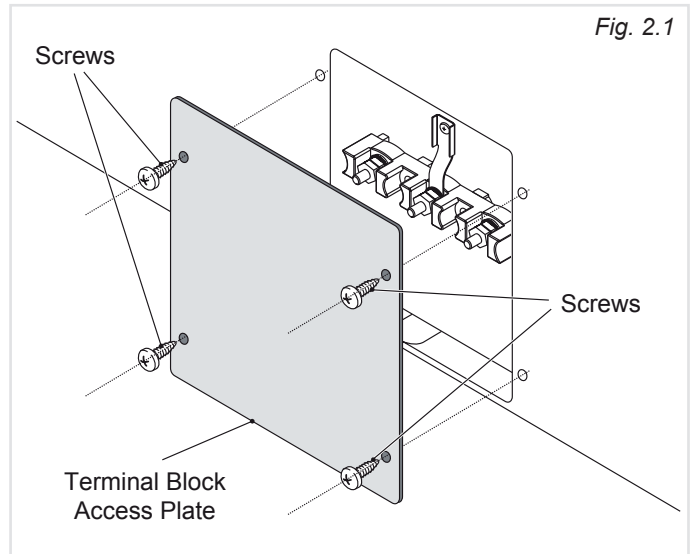

Fig. 2.1
### 3-Wire Power Cord Installation (See figures 2.1, 2.2)
1. Remove the **Terminal Block Access Plate** on the back of the range by unscrewing the 4 fixing **Screws** (figure 2.1).
### 4-Wire Power Cord Installation (See figure 2.1, 2.3)